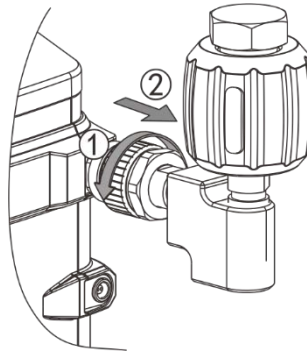

Figure 7 Remove the single port
1) Remove the single port, as shown in Figure 7.